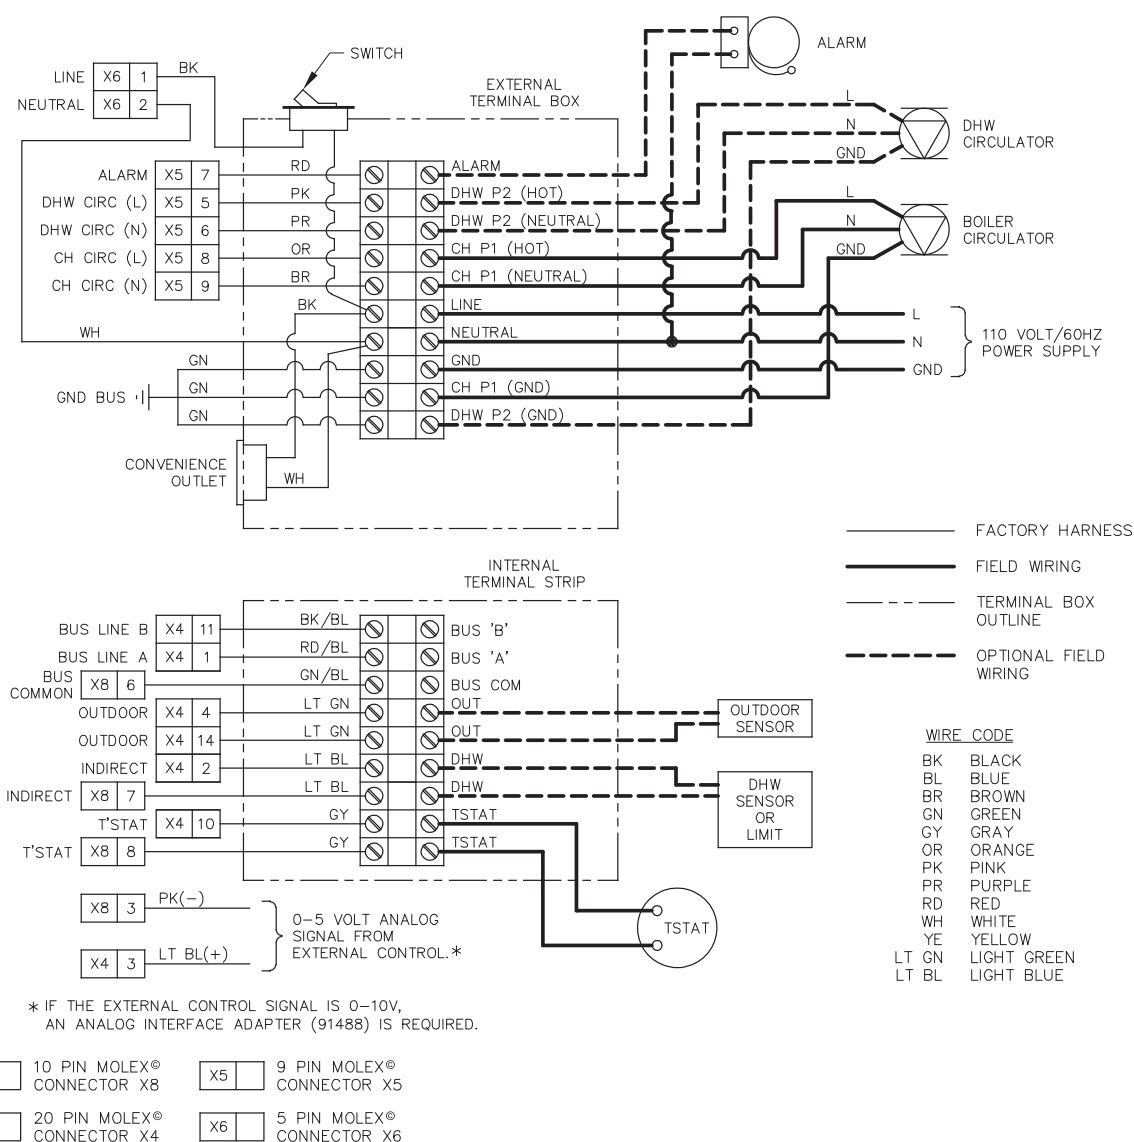

Figure 6.1: Wiring Connections to Boiler Junction Box
1. Refer to Figure 6.1 for connecting the power supply to the boiler.
6. Figure 6.1 shows connections to boiler circulator.
7. The thermostat connections are shown in Figure 6.1 or 6.2. The setting for the thermostat anticipator is 0.56 amps.